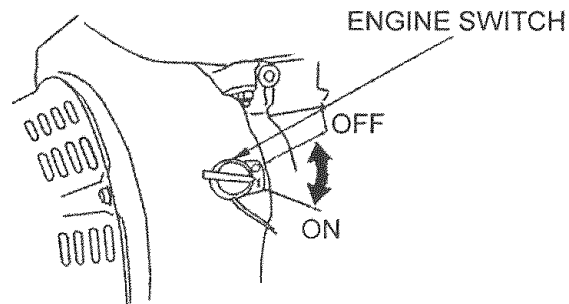

Figure 11- Engine Switch
4. Turn the engine to the ON position (see figure 11).